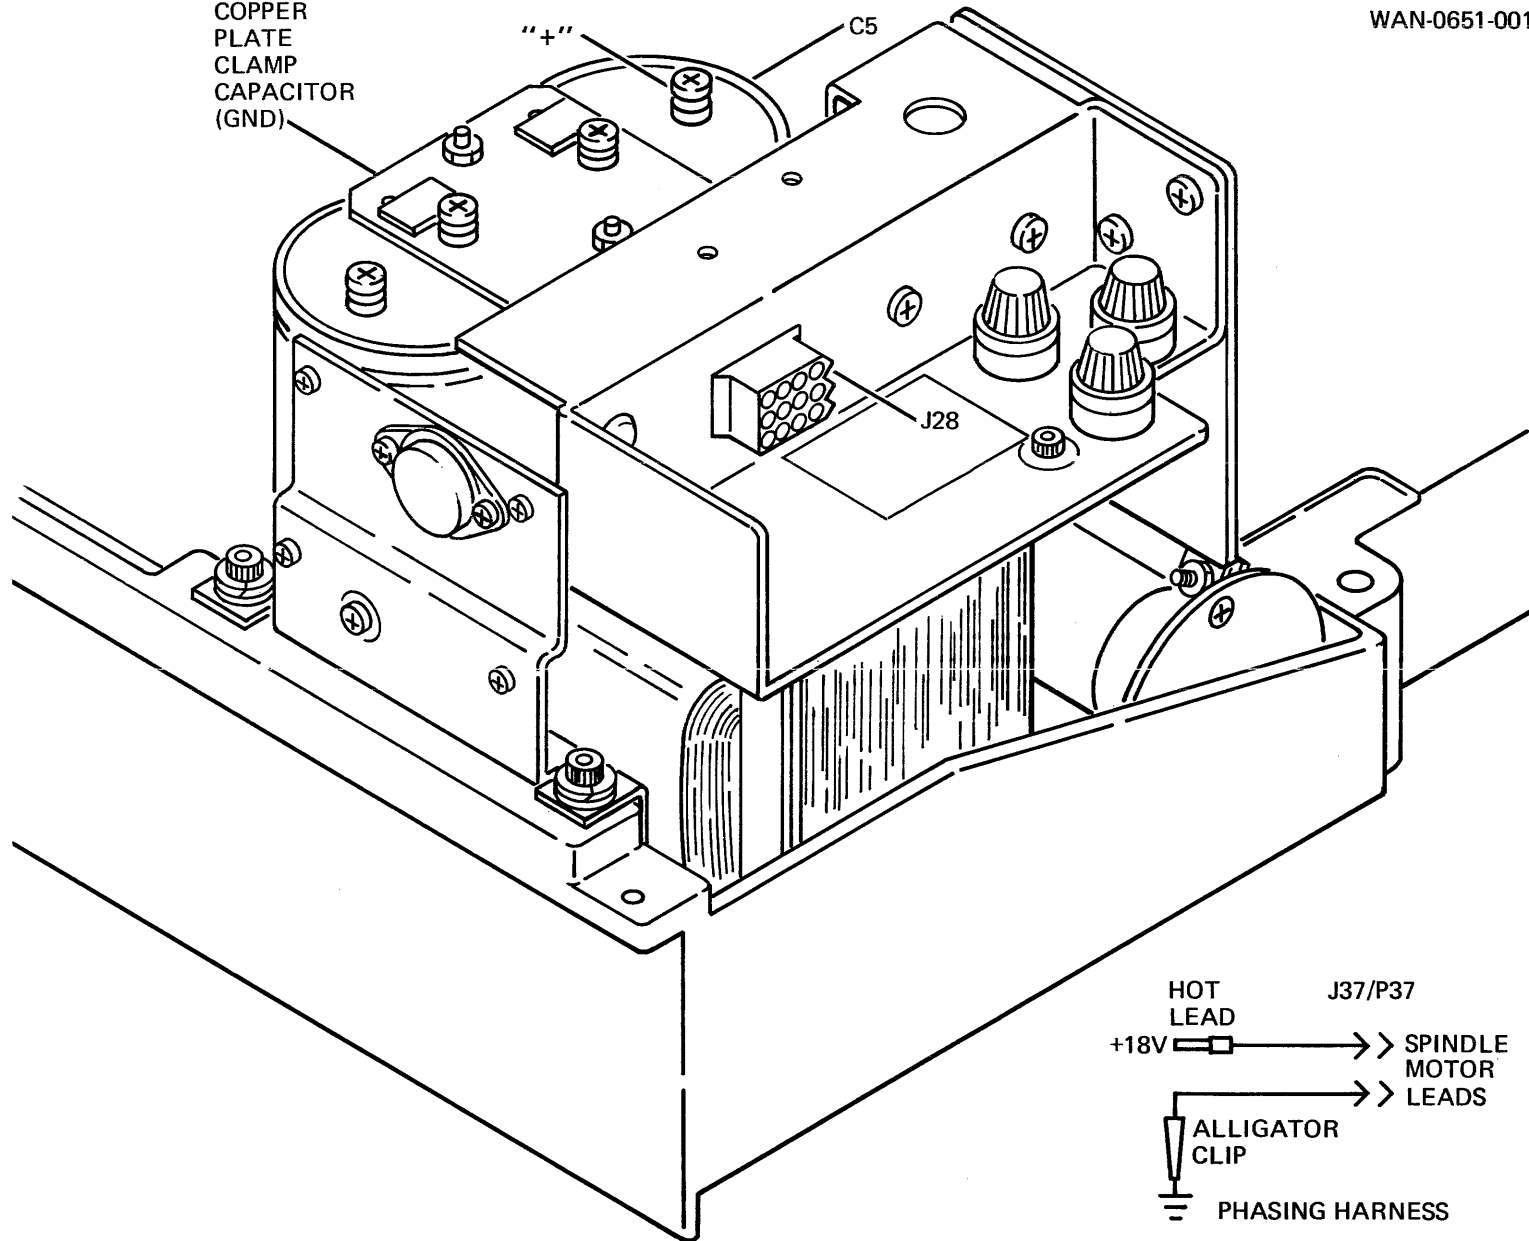

Figure 5-26. Power Supply Connections – Commutator Board Phasing Adjustment
- F. Connect the alligator clip of the phasing harness to the copper plate on top of the power supply as shown in Figure 5-26.
- G. Actuate the POWER switch on the Disc Drive, and touch the harness contact pin to the (+) side of capacitor C5 shown on the schematic showing the harness connections in Figure 5-26. The spindle should rotate and lock in position.